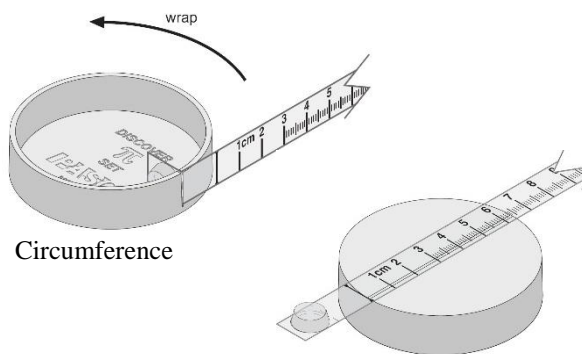

Figure 2: Measuring Diameter and Circumference
To measure circumference: As shown in Figure 2, slip the folded end into the slot on the side of the disk and wrap the tape once around the disk so that it overlaps the zero-line marker.
To measure diameter: As shown in Figure 2, place the tape along the line marked on the face of the disk.
7. Use the plastic ruler to measure the diameter of the largest disk as shown in Figure 2. What is the uncertainty in this measurement? You do not need to make the large variety of measurements that you did on the previous page, but at least make a few to allow you to estimate the uncertainty.